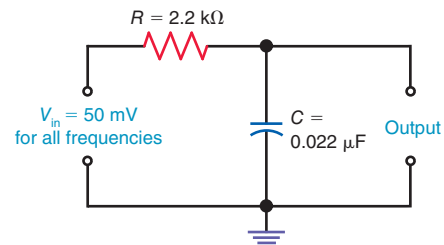

Figure 23-25
- Fig. 23-25.
- 23.11** In Fig. 23-25, calculate the output voltage, V_{out} , and phase angle, θ , at the following frequencies:
- 23.13** For the filters in Figs. 23-25 through 23-28, what is the ratio of V_{out}/V_{in} at the cutoff frequency?
- 23.14** Without regard to sign, what is the phase angle, θ , at the cutoff frequency for each of the filters in Figs. 23-25 through 23-28?